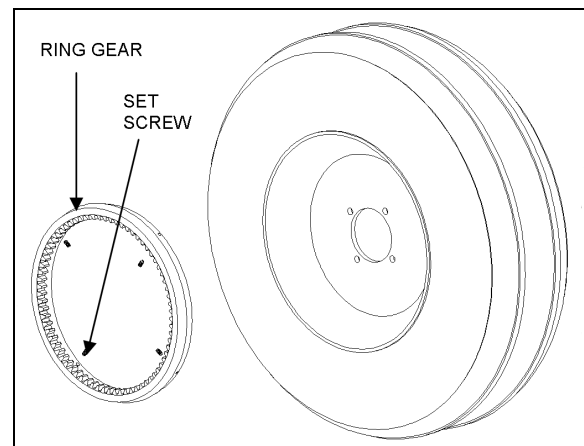

Figure 3.4 Ring Gear Installation
2. Insert ring gear into rim (Figure 3.4). Use a hammer to be sure the ring gear seats evenly into the rim.